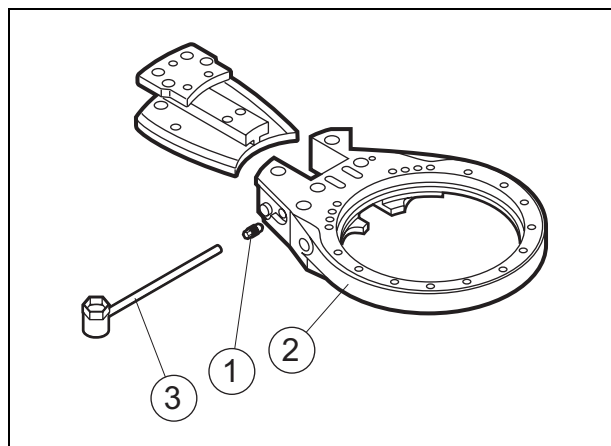

Fig. 41 Bleeding chain tension system
4. Tip the unit backwards as far as possible so that the bleeder valve (1) is as high as possible in relation to the tension pistons.
5. Open the bleeder valve (1) 1- 2 turns.
Use the tool P/N 0704040, (3) *See Fig. 41.*
6. Close the bleeder valve(1) when the oil appearing from the valve is clear from air. Repeat this process after about 30 minutes of operation.